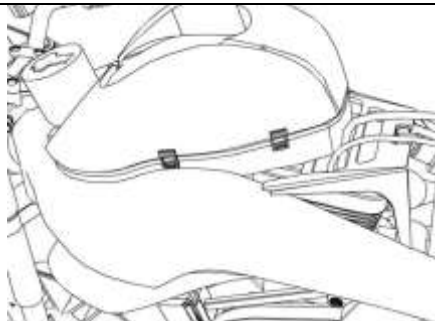

Figure 6
4. Undo the clips and remove the air box lid and filter. (Figure 6)